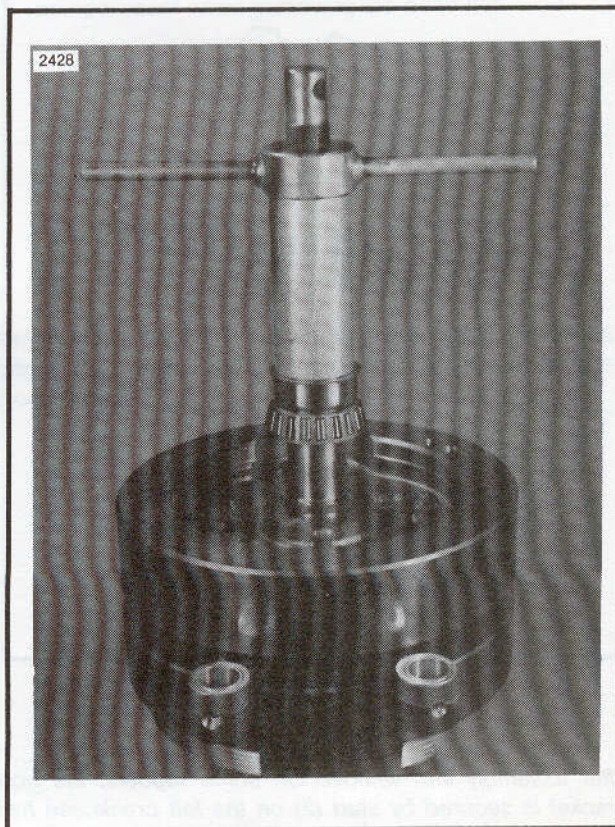

Figure 3-55. Press Bearing onto Sprocket Shaft
2. See Figure 3-55. Position flywheel assembly, sprocket shaft up, in flywheel fixture. Press bearing (15, Figure 3-52) on sprocket shaft using BEARING INSTALLATION TOOL, Part No. HD-97225-55A. SPROCKET SHAFT SPACER HD-24036-70 may be needed with BEARING INSTALLATION TOOL. Press the parts on using the sprocket shaft spacer as a pressing tool only.
4. See Figure 3-55. Install the bearing inner spacer (10, Figure 3-52) and tool sleeve and press bearing against flange on flywheel using the tool